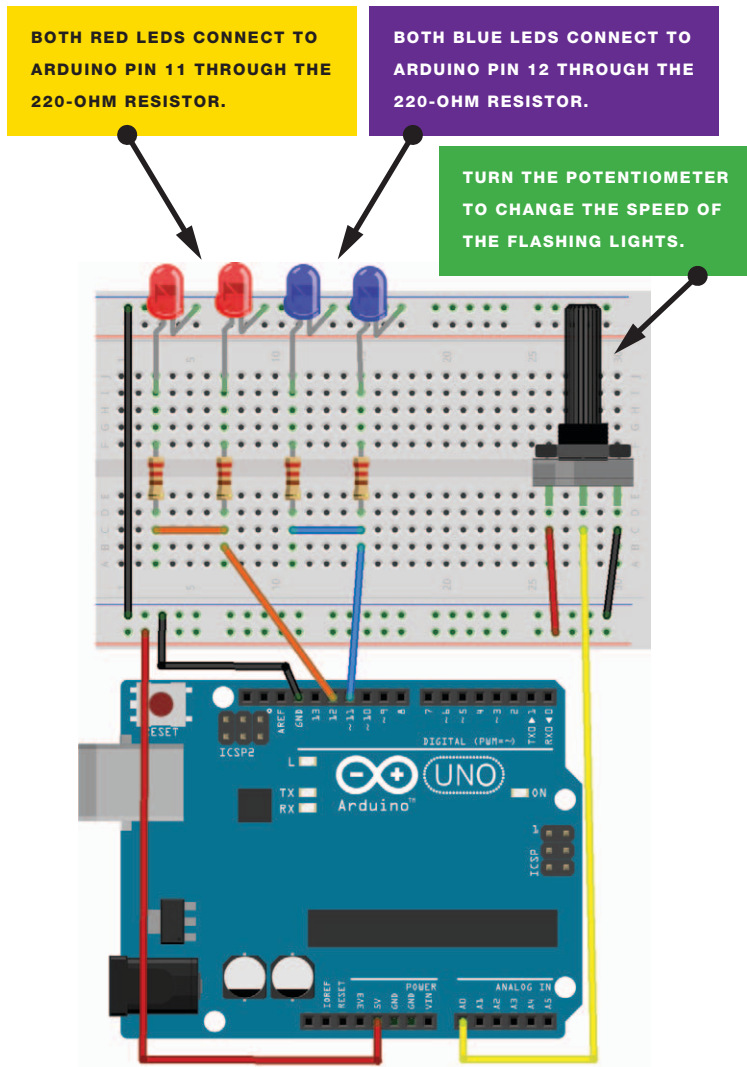

FIGURE 4-3:
5. Confirm that your setup matches that of Figure 4-3, and then upload the code in “The Sketch” on page 103.